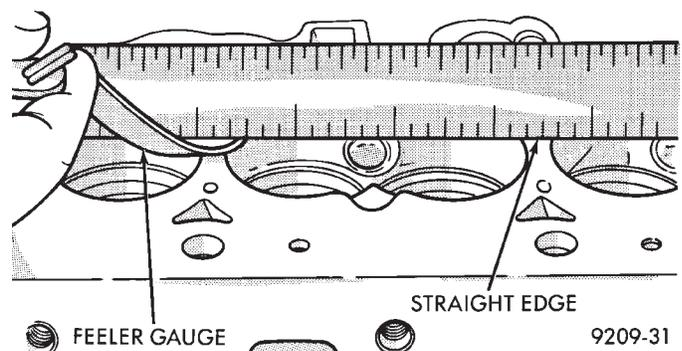

Fig. 14 Checking Cylinder Head Flatness
(1) Cylinder head must be flat within 0.1mm (.004 inch) (Fig. 14).
(2) Inspect camshaft journals for scoring and journal caps for oversize markings. When servicing cylinder head or camshaft, it is necessary to be certain that oversized camshafts are used only in oversized heads. **Identify oversize components as follows:**